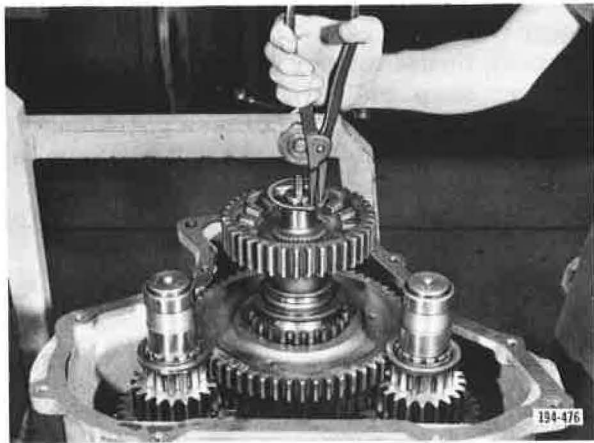

Figure 5-647. Installing Lo-Range Main Drive Gear Retaining Snap Ring
19. Install Lo-range main drive gear retaining snap ring. See Figure 5-647.